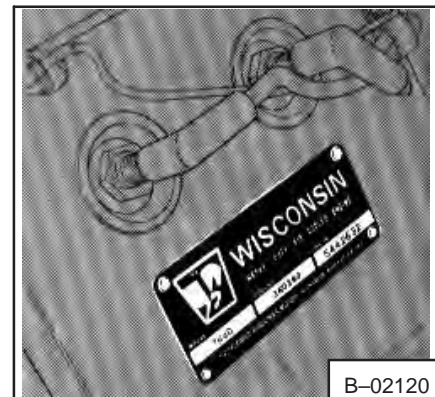

Fig. 1-2 Engine Serial Number (730)
**730 Wisconsin:** (Fig. 1-2) The engine serial number location is on the engine shroud on the left side of engine. Use all numbers when ordering parts for this engine.